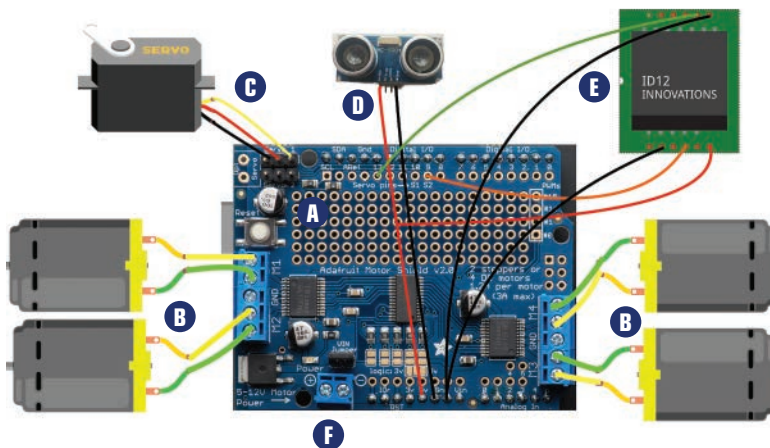

FIGURE 13.28 Wire up the electronics as you see here.
- 19.** Next, let's begin installing the electronics. Figure 13.28 shows the various components and how to connect them, but let's cover each item on its own: